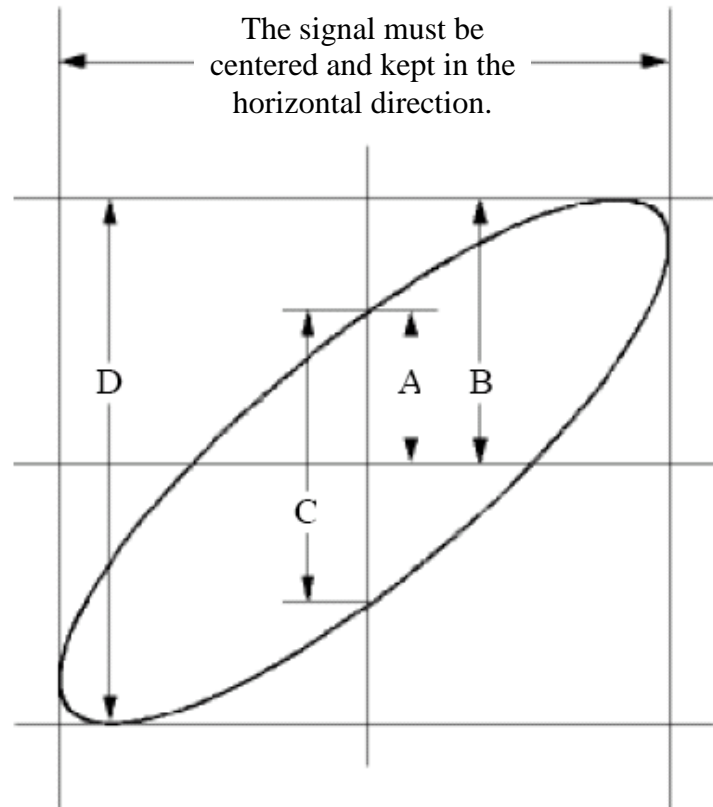

Figure 9-6 Lissajous Graph
- (7) Turn the **Vertical Scale** and **Vertical Position** knobs, optimizing the waveform.
- (8) With the elliptical oscillogram method adopted, observe and calculate the phase difference (see *Figure 9-6*).